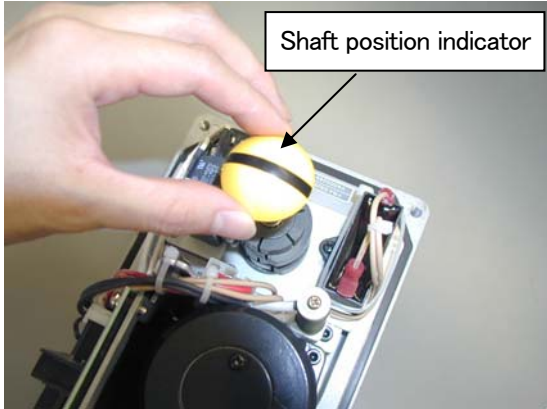
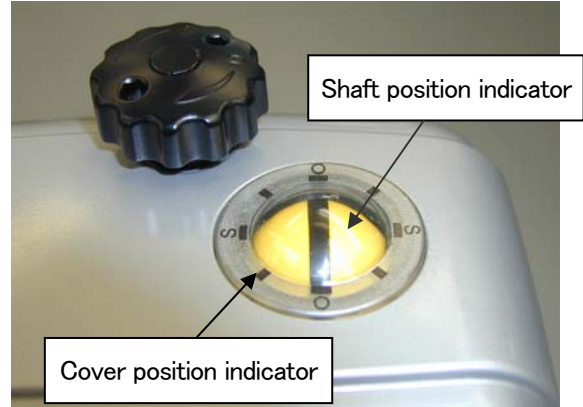
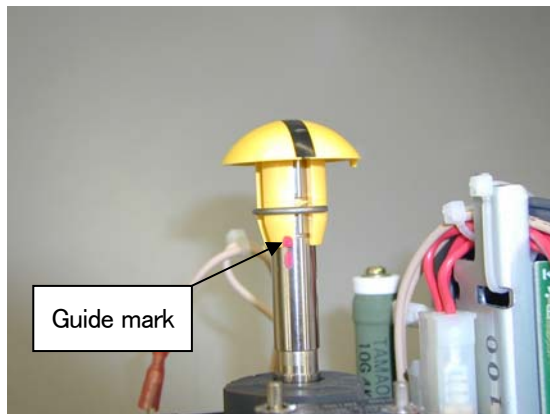

Fig. 37
Fig. 38
Fig. 39
- ⑪ Adjust a shaft position indicator so that its indication matches that of a cover position indicator (Fig.37 and Fig.38), using a guide mark provided in a control shaft to ease coupling with a shaft position indicator (Fig.39).
- ⑫ Assemble a housing cover on a gear unit, ensuring that a manual operation shaft and a manual gear are fully engaged while pushing down a handle (Fig. 39), and securely tighten it with cover bolts. The recommended tightening torque is 4.7 to 6.0 N·m.